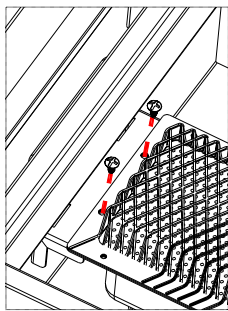

Fig. 15I
Now attach the Sear Burner to the bracket located on the back wall of the Sear Burner Housing using (2) ST4.0 x10 Screws as shown in Figure 15I.